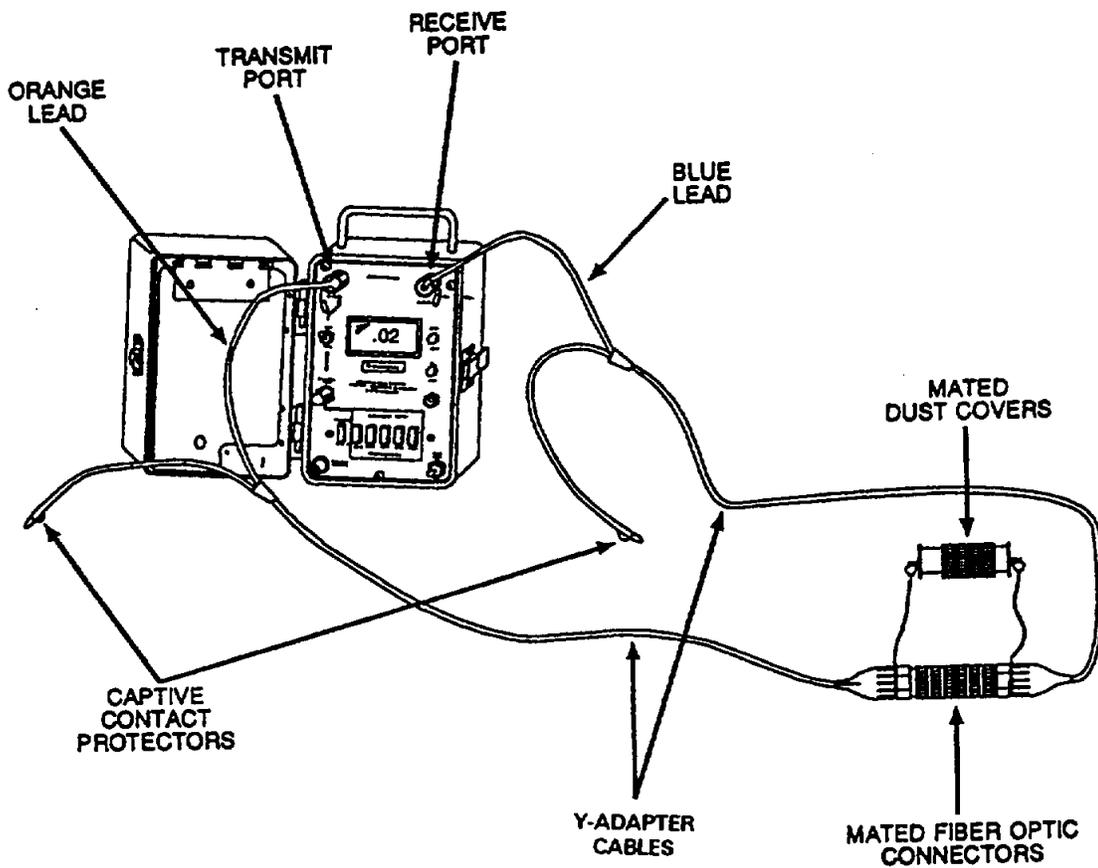

Figure 2-1. Connection of Y-Adapter Cables to the TS-4335/G Test Set
- g. Mate the two Y-adapter cables and connect the orange lead of one of the cables to the TRANSMIT port, and the blue lead from the other cable to the RECEIVE port (see Figure 2-1).